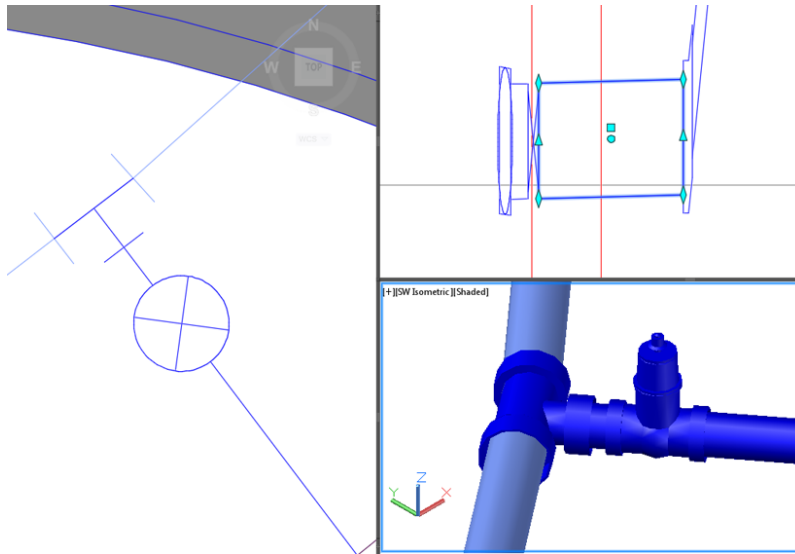

FIGURE 15.12 The connection of the proposed waterline to the existing waterline, shown in plan, profile, and 3D perspective
- 15.** Click the pipe on the right side of the gap to display its grips. Click the upright triangle grip, and drag it toward the new valve. Click when the glyph appears, indicating that a connection is going to be made. View the tee and valve assembly in the lower-right viewport (see Figure 15.12).